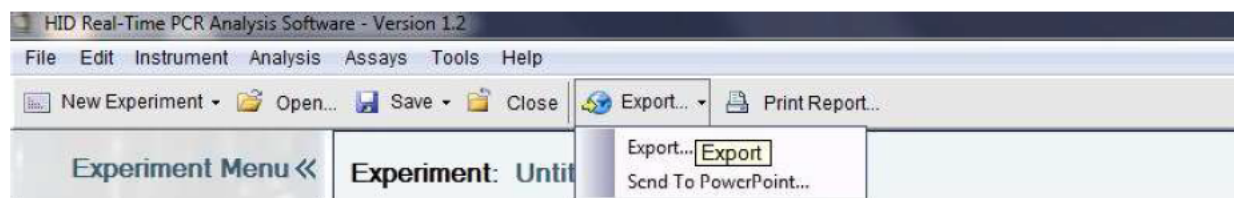

Figure 19: Export button on the main screen.
10. Export the quantification results as a .TXT file also by clicking **EXPORT** from the top toolbar (Figure 19). This is the results file format that will be run on the QTrio macro in order to upload results into the LIMS.